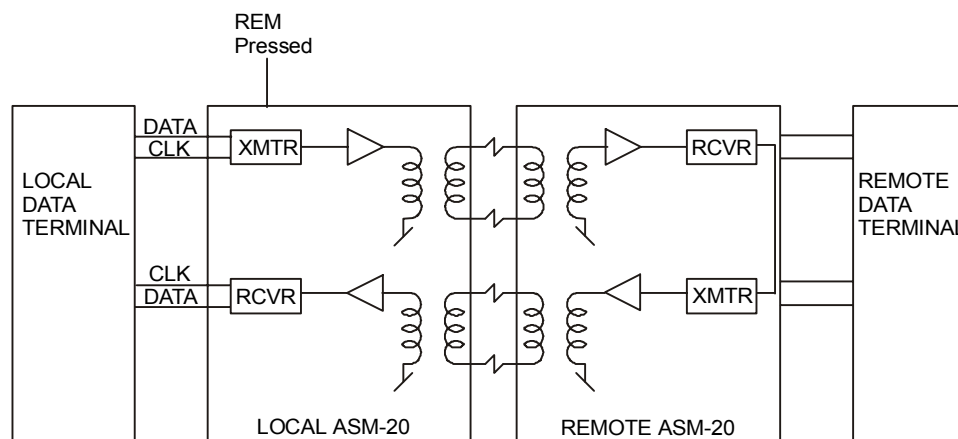

Figure 4-4. Remote ASM-20 in Digital Loopback
1. Press the REM (Remote Loopback) push button, providing a loopback at the remote ASM-20 (see Figure 4-4). (This test can also be activated via the pin on the DTE interface.) The TEST LED should light up at both the local and remote units.